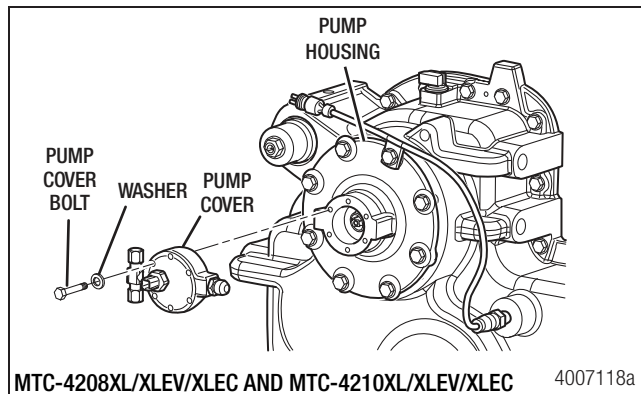

Figure 7.46
11. Install the pump cover washers and bolts. Figure 7.46.